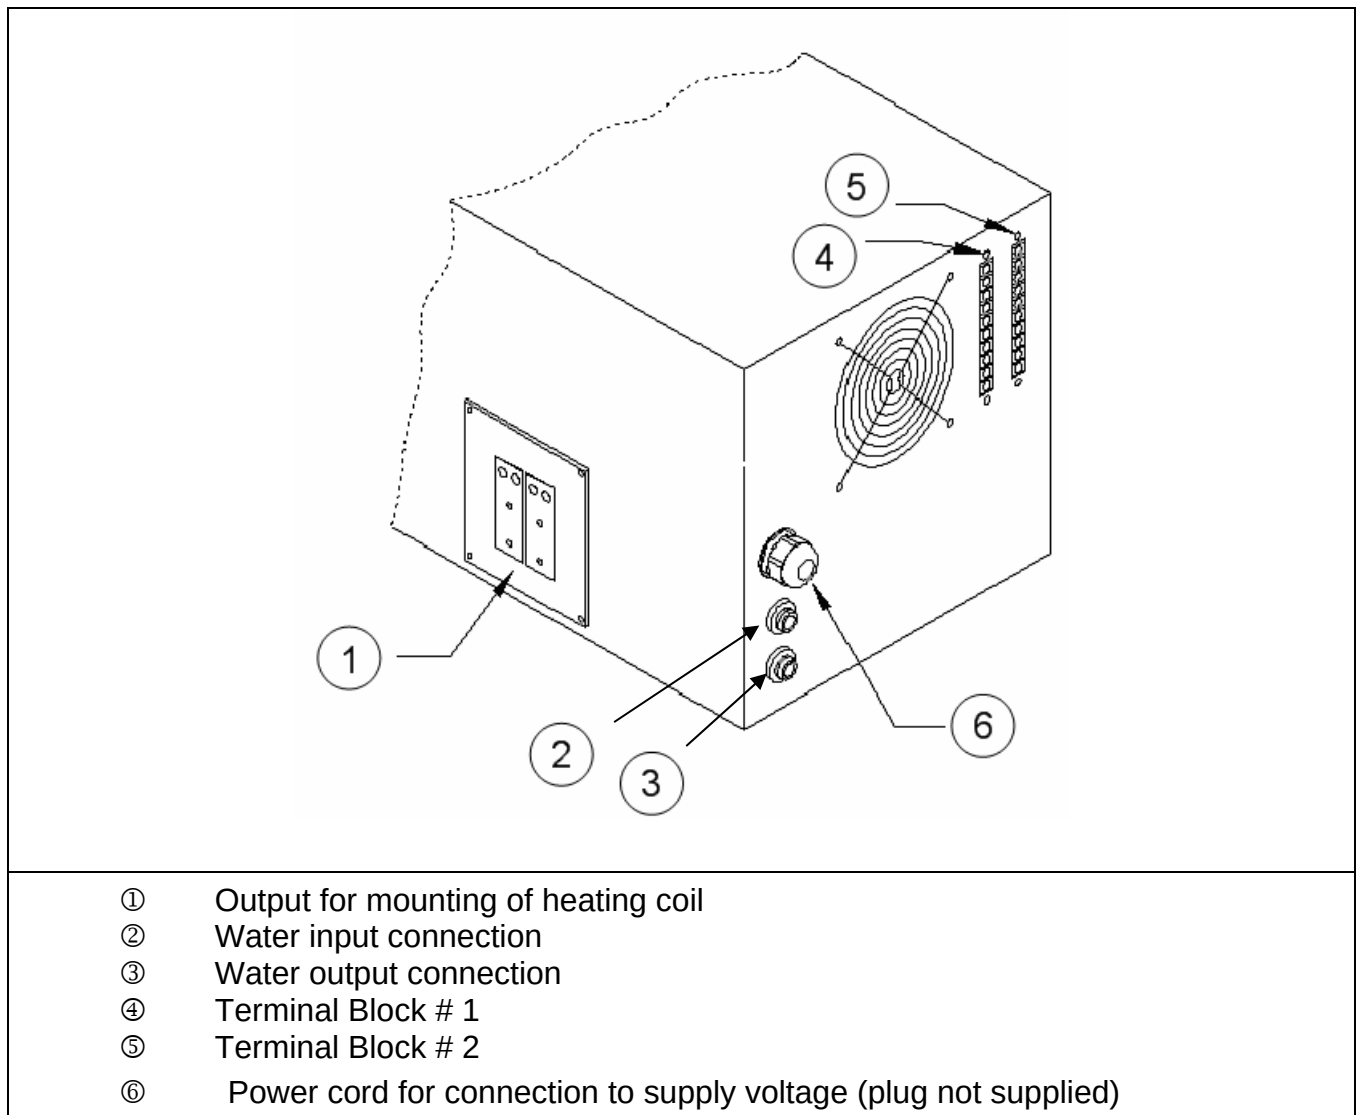

Figure 1: Terminal blocks, circuit breaker, load and input voltage connections.
4. Ensure that the circuit breaker (identified by → in Figure 1) on the unit is in the OFF position. Connect the power cord to a 230V single phase power source as described in section 3.2. on page 7.
Mount the heating coil to the side of the unit (see ① in Figure 1) using four 10-32 non-magnetic (e.g. brass) screws. For most applications, a water cooled coil is necessary. If a flow switch is used in the water path, it can be connected to Pins 4 & 5 of Terminal Block # 2. See Appendix A for more details.
The unit is supplied with a 6 foot long cord (see ⑥ in Figure 1). Install a single phase grounded locking plug on the power cord. Connect the plug to an appropriate supply voltage outlet socket. Note the requirements of the supply voltage given in section 1.2. on page 3. Ensure that a proper safety ground is connected to the ground terminal of the three-wire socket.
The circuit breaker (see ③ in Figure 1 on page 7) is equipped with a shunt trip which will shut off the power if the cover is removed from the unit, or if the E-Stop switch is pressed.
The top three terminals of Terminal Block # 1 can be utilized for remote power reference.. (see ④ in Figure 1 on page 7). The lower three terminals can be used to interface the power supply with a computer. APPENDIX A: User Interface on page 17 explains the connections in more detail.